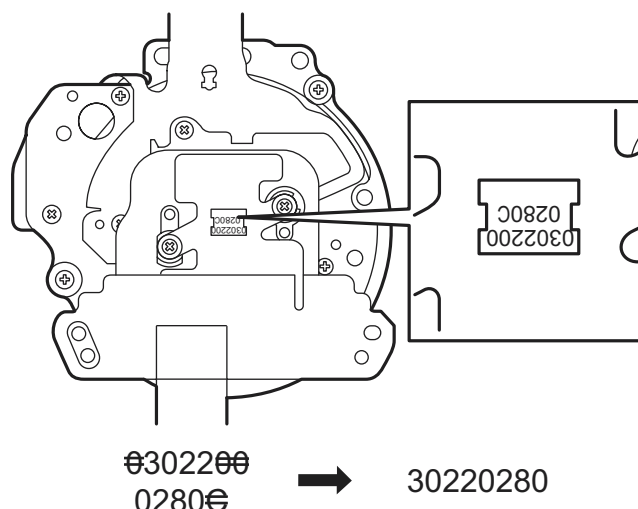

Fig.10-1
* The following example assumes the use of the serial No. shown at right.(Fig.10-1)